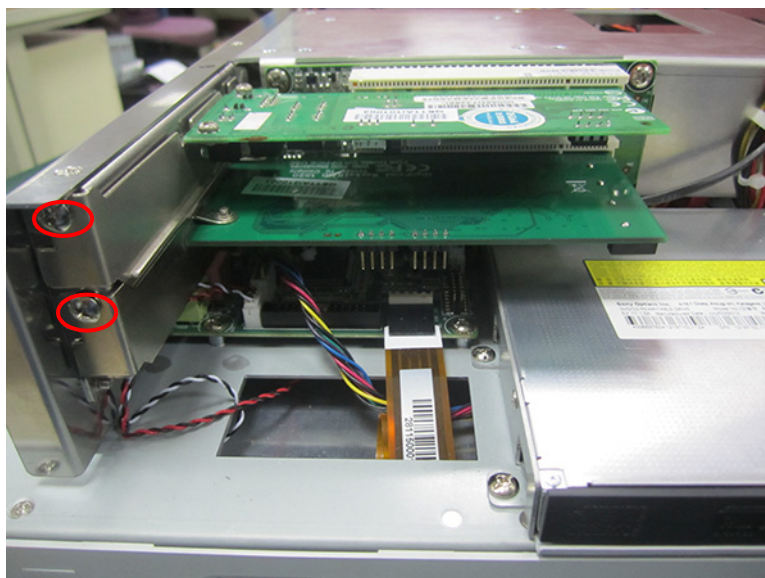

Figure 2.39
3. Remove the card slot back plate, and insert the needed card (See Fig 2.39), then fix the screws and return the rear cover.